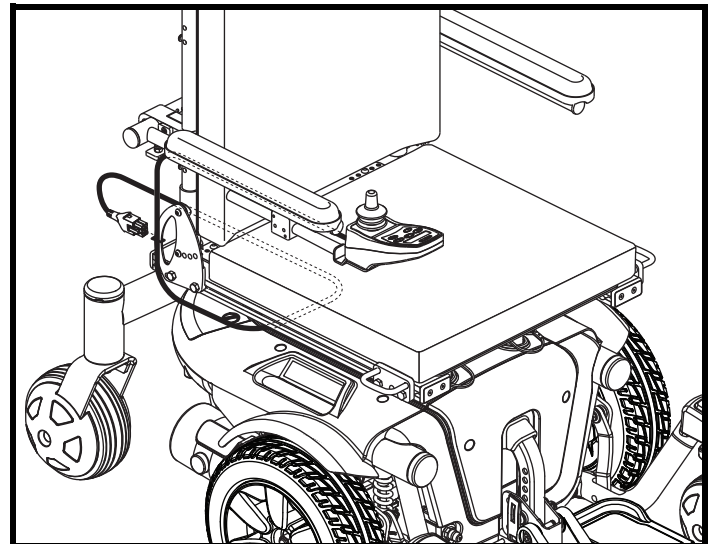

Figure 12. Controller Routed on a Synergy Seat
4. Install the controller and route the harness to the back of the power base. See figure 12.